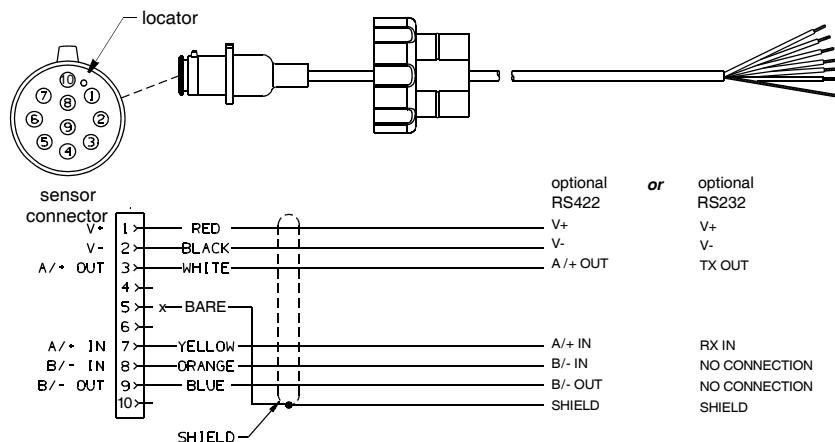

Figure 5. NMEA 0183 Sensor Cable
If your sensor cable does not have a connector on the display end, it must be hard wired. Referring to the owner's manual that came with your display, connect the colored wires as shown in Figure 5.
**CAUTION:** Your sensor has either an RS422 or RS232 interface. You must follow the wiring diagram in Figure 5 that matches your sensor. If the sensor is wired for the wrong interface, it will not transmit and receive data properly.
2. Strip 60 mm (2-1/2") of the outer jacket and foil shielding from the cut end of the cable (see Figure 5).